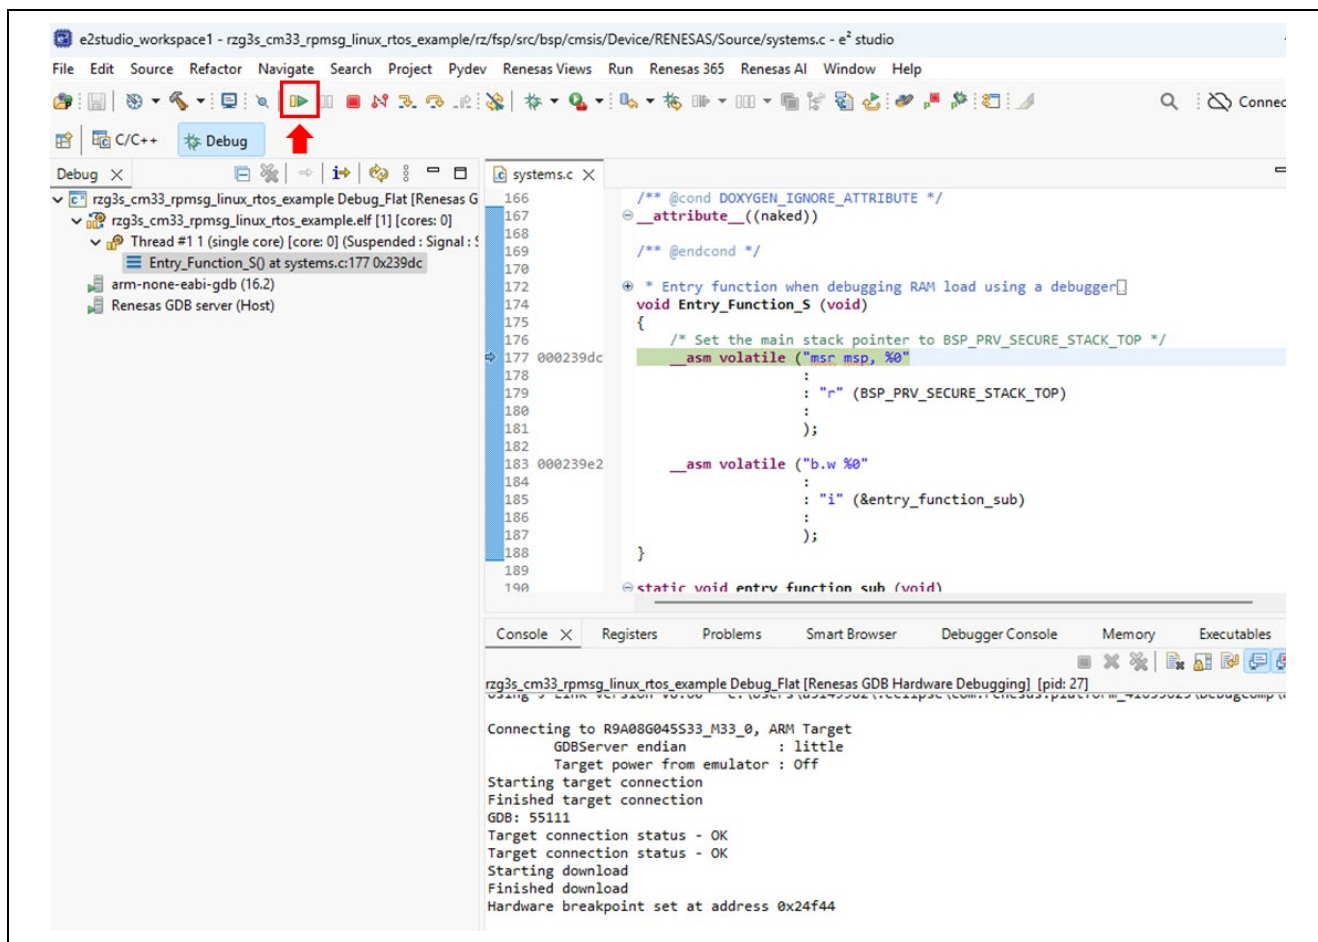

Figure 4-16. Start to debug RPMsg Sample Program (1)
9. When the debug perspective is opened, Program Counter (PC) should be located at the top of **Entry_Function_S** function. Then, you need to press the button indicated by a red arrow in Figure 4-16: